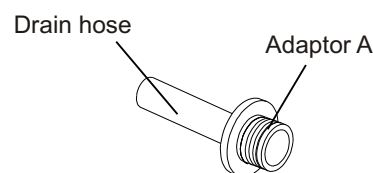

Fig.7
- Install the drain hose onto the adaptor A (See Fig.7, placed in the bucket).